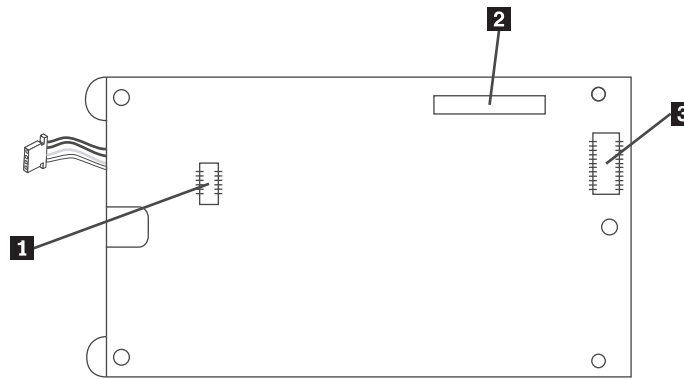
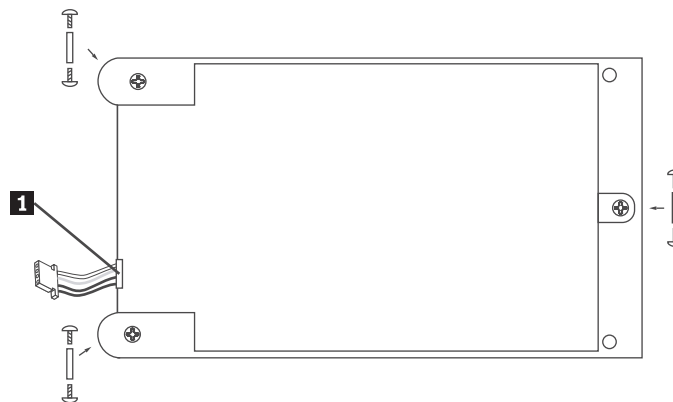
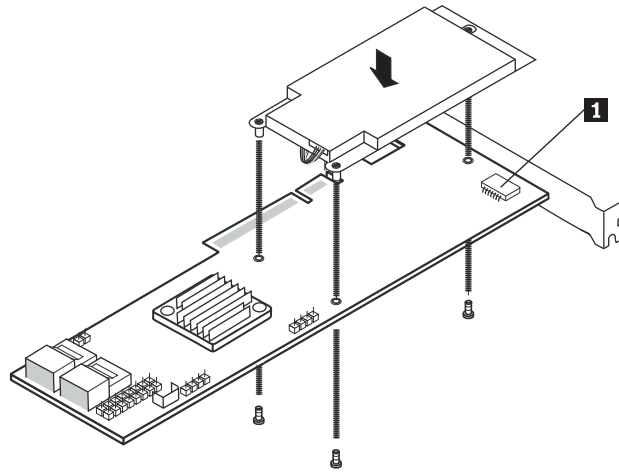

Figure 34. Bottom view
Figure 35. Top view
Figure 36. Installing the battery card assembly
- b. Insert the battery pack harness connector (as shown in Figure 35) into the 5-pin J3 battery pack harness connector (as shown in Figure 34) on the backside of the battery card assembly.
- d. Hold the battery card assembly with the battery side up and the J2 board-to-board connector (as shown in Figure 34) lining up with the J7 BBU connector on the RAID controller, as shown in Figure 36 on page 69.